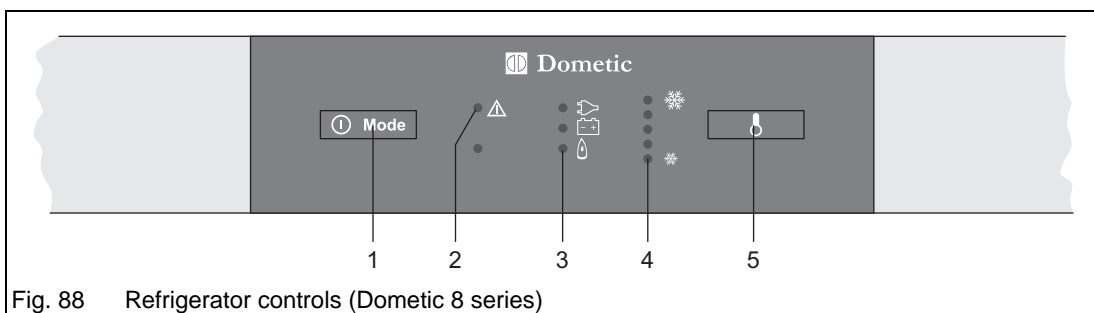
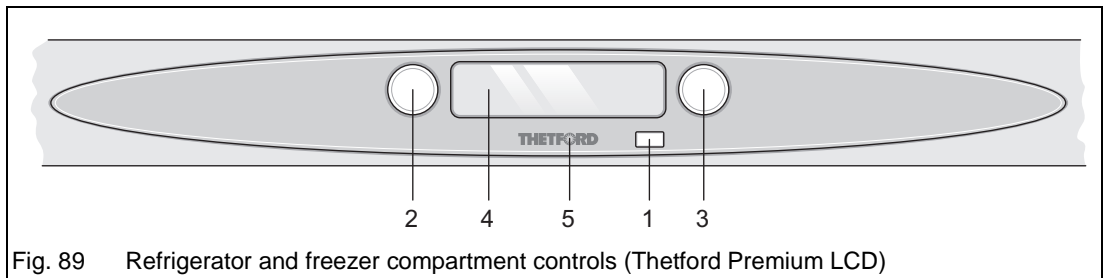

Fig. 88 Refrigerator controls (Dometic 8 series)
Fig. 89 Refrigerator and freezer compartment controls (Thetford Premium LCD)
- On refrigerators with manual power selection (MES), press the power selector switch (Fig. 88/1) resp. (Fig. 89/ 2) so often until "Gas mode" is selected. Ignition is then automatic.